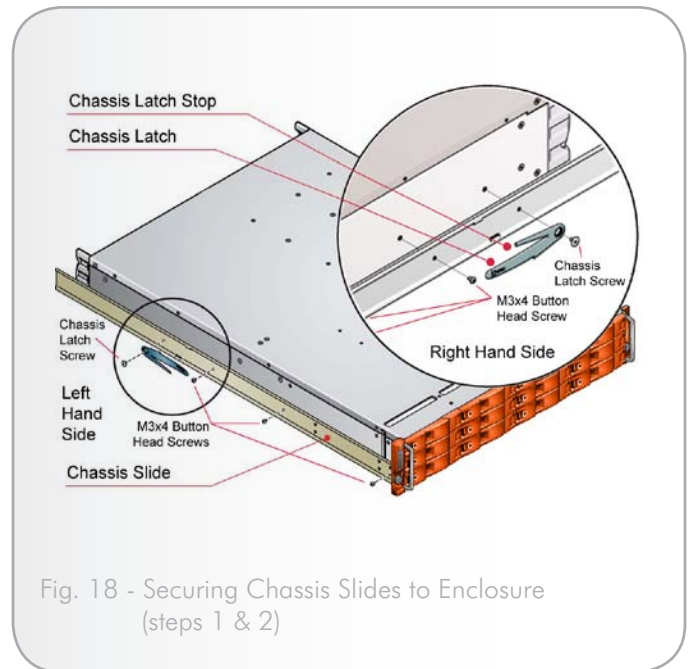

Fig. 18 - Securing Chassis Slides to Enclosure
2. Attach left and right chassis slides to the enclosure sides using 8 M3 x 4 button head screws (see Fig. 18).
3. Assemble the left and right chassis latches using the special chassis latch screws. Ensure that the latch is orientated as shown in Fig. 18, with the spring arm located against its stop. On the right hand this is at the top, on the left it is at the bottom.
4. Assemble the left and right chassis latches using the special chassis latch screws. Ensure the latch is orientated as shown in Fig. 18, with the spring arm located against its stop. On the right hand side this is at the top, on the left at the bottom.